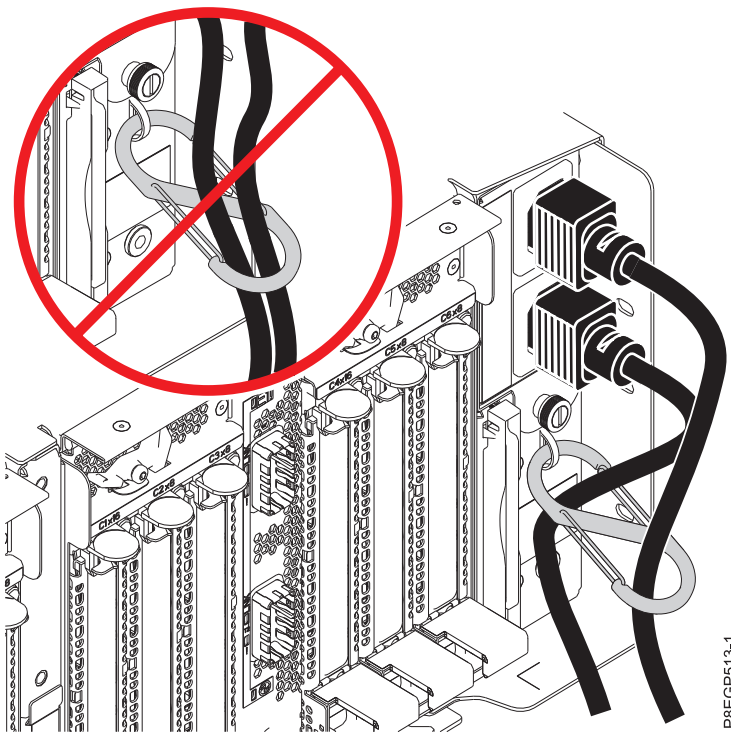

Figure 16. Routing the power cables through the s-carabiner and connecting them to the power supply
- b. Route the power cables through the s-carabiner so that the cables clear the PCIe3 6-slot fanout module or modules. See Figure 16.
- c. Connect the other ends of the power cables into the power supplies on the EMX0 PCIe3 expansion drawer you are installing. See Figure 16.